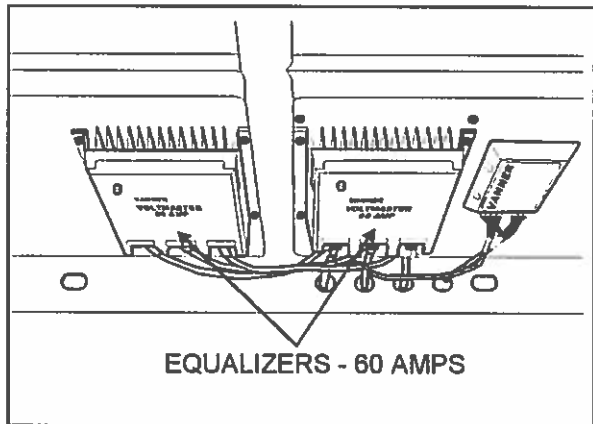

FIGURE 55
On vehicle the two (2) battery equalizers ("VANNER"-60 amps-12 & 24 volts) are installed just below rear L.H. side baggage compartment's ceiling. The reset buttons are located on the end of equalizers facing the center of the coach. Refer to figure 55.